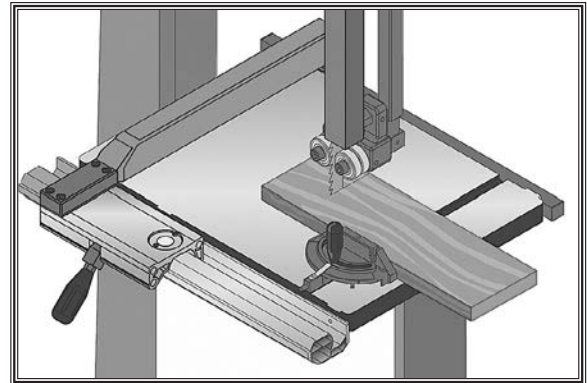

Figure 76. Example of a crosscutting operation with optional miter gauge.
5. After all safety precautions have been met, turn bandsaw **ON** and wait for it to come to full speed. Slowly feed workpiece into blade until blade is all the way through workpiece. **Figure 76** shows an example of a crosscutting operation.